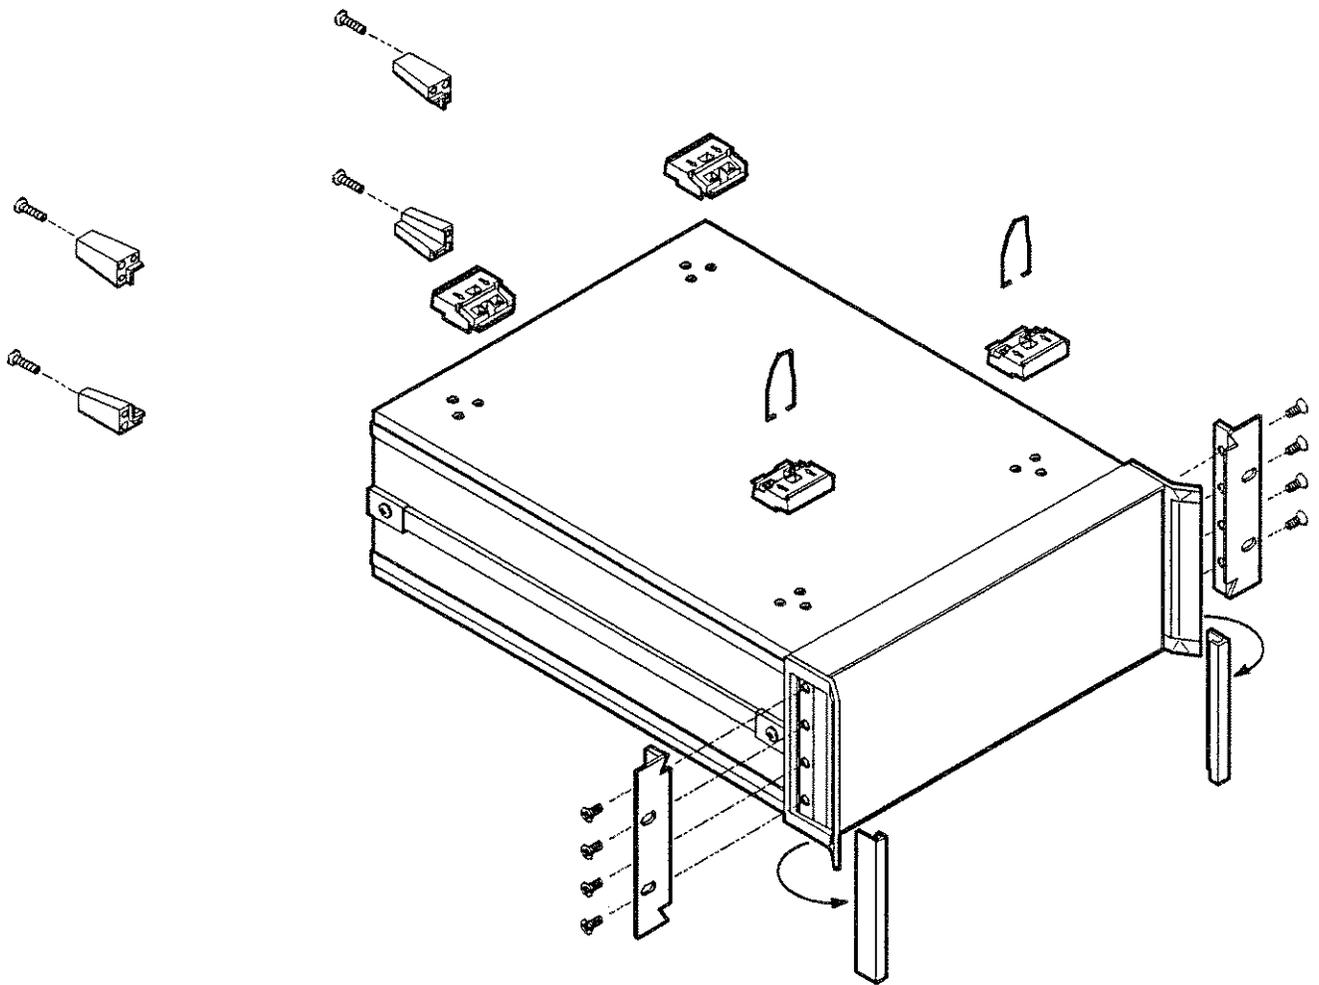

Figure 3-9. Rack Mount Flanges for Synthesizers with Handles Attached
1. Refer to Figure 3-9. Remove handle trim strips.